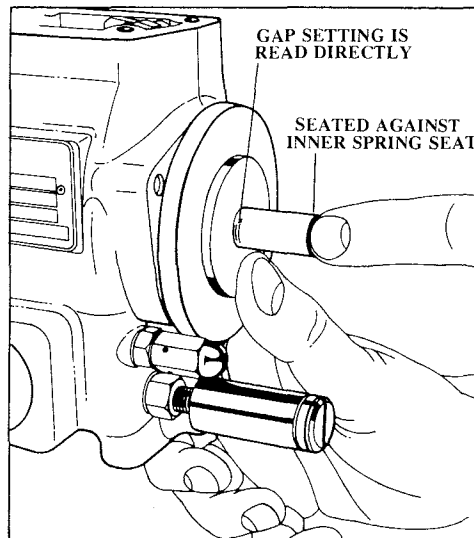

FIGURE 2-208
- (16) Determine the distance from the zero graduation on the inner spring gauge to the last visible graduation — read to the nearest ¼ millimeter. **This is the inner spring gap.** (Refer to figure 2-208).